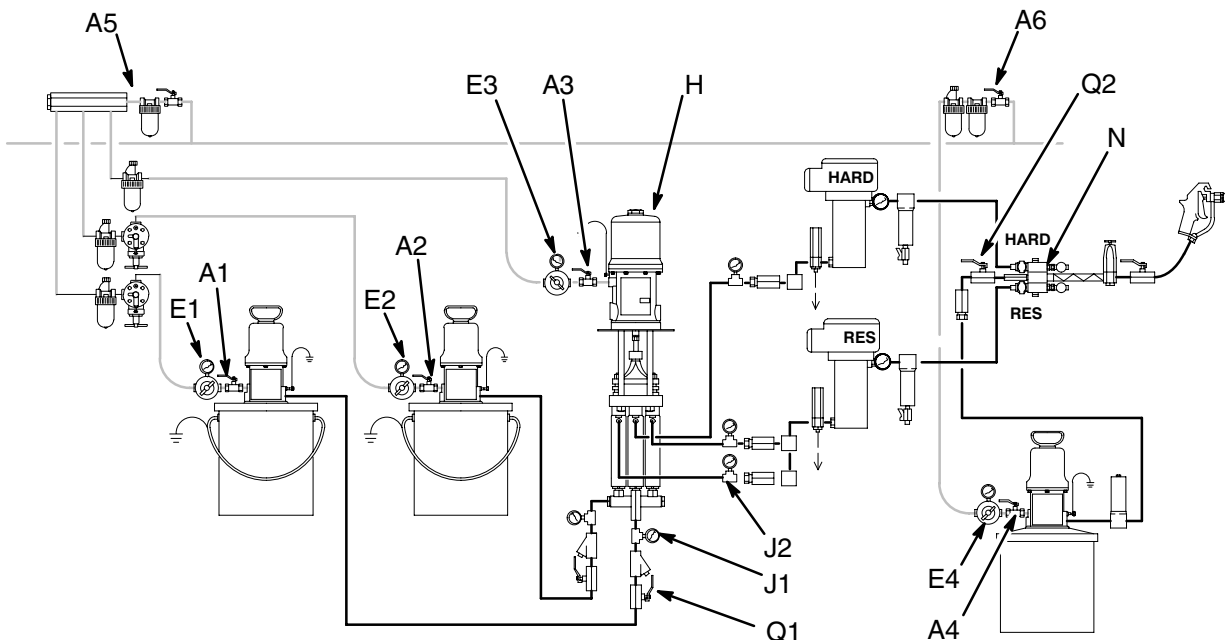

Fig. 14
2. Be sure both of the fluid shutoff valves (Q1) are open. See Fig. 14.
4. Be sure the feed pump air regulators (E1,E2) are at minimum pressure. See Fig. 14.
5. Open the main master air valve (A5). See Fig. 14.
6. Open the hardener pump master air valve (A1). See Fig. 14.
9. When the hardener lines are flushed, close the mixer manifold handle and close the drain valve (P1). Close the air valve (A1). See Fig. 14.
- a. Be sure the solvent pump air regulator (E4) is at minimum pressure. See Fig. 14.
- b. Open the solvent pump main master air valve (A6) and then open the pump air valve (A4). See Fig. 14.
- e. Close the solvent line shutoff valve (Q2). See Fig. 14.